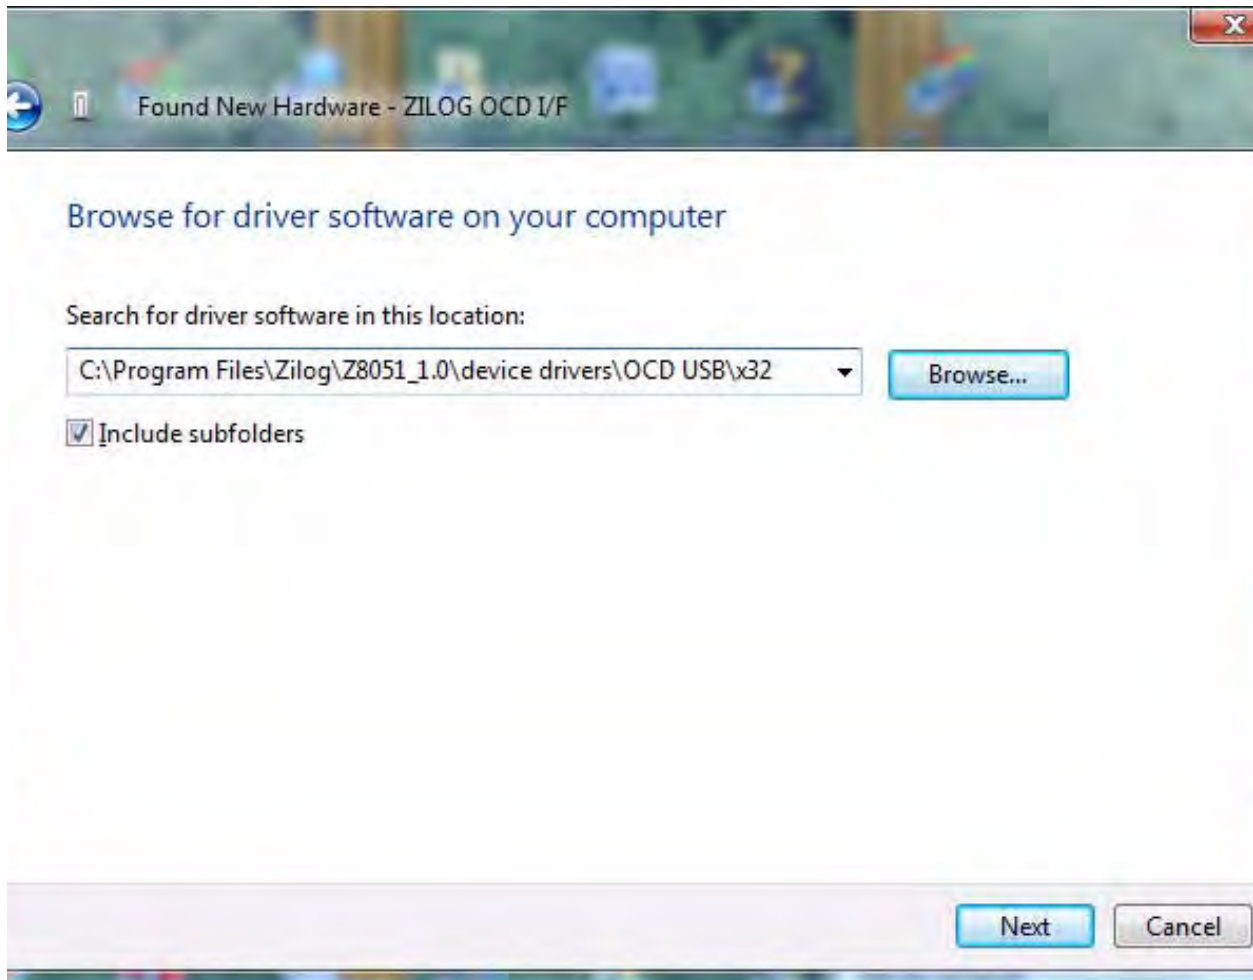

Figure 23. Browse For Driver Dialog, Windows Vista
5. Select **Browse my computer for driver software (advanced)** to display the dialog shown in Figure 23, which prompts you to key in or browse for the location of the .inf file. Depending on the type of computer you use (32-bit or 64-bit), use the **Browse** button to navigate to one of the following paths, then click the **Next** button.